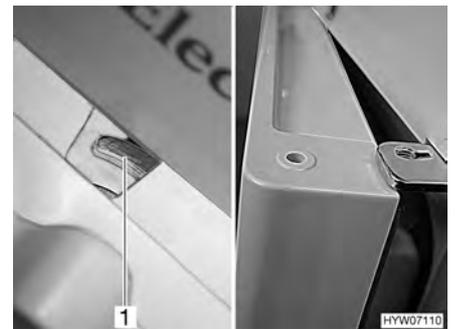

Fig. 194 Refrigerator door in ventilation position (Dometic 7 series)
- Push the lock completely to the right. The door latch (Fig. 194,1) keeps the refrigerator door in a fixed position. The refrigerator door will then stay slightly open (Fig. 194).